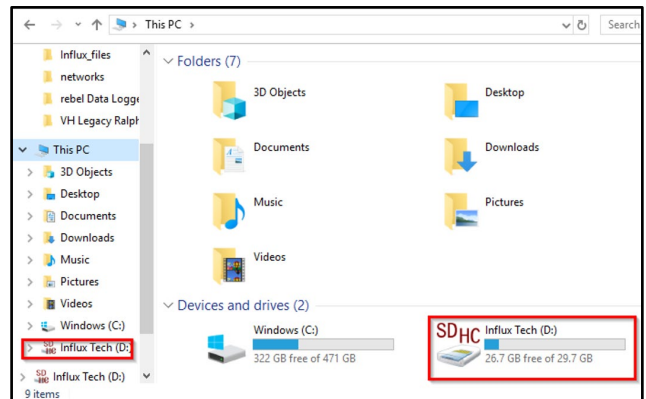

Figure 7
3. Open the "Influx Tech SD Card" (refer to Figure 7).